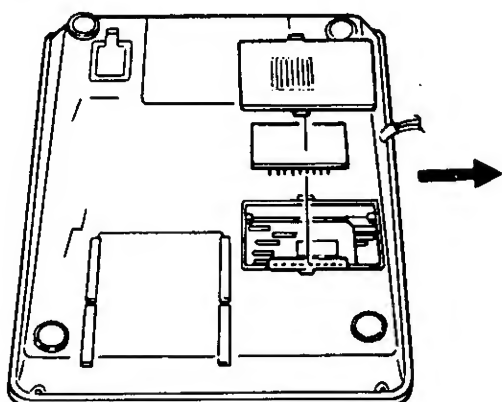

Figure 200-54 Mounting the HFU-Z Unit
1. Remove the access cover, located on the bottom of the Key Telephone, by lifting the edge on the side where the handset jack is located and then sliding it to the right, as shown in Figure 200-54.